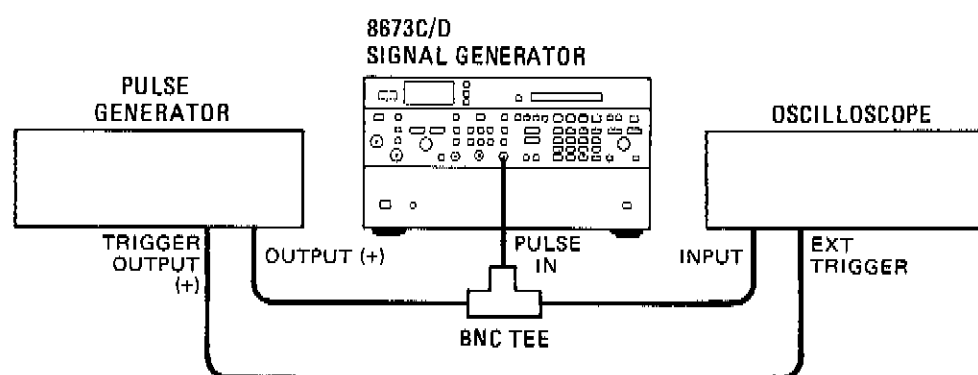

Figure 8-53. Pulse Modulation Check Setup
14. Connect test equipment as shown in Figure 8-53.